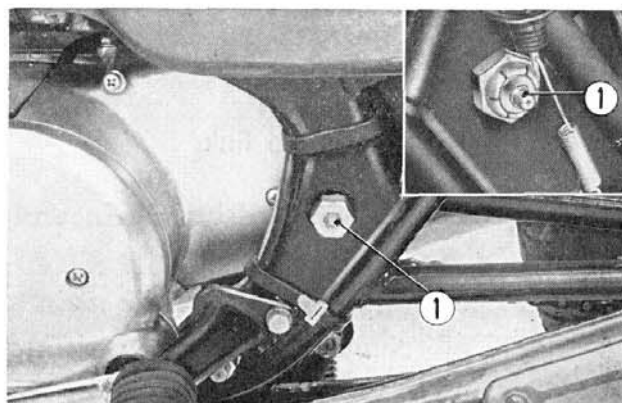

Fig. 19-18 ① Grease nipples
(1) Lubricate grease nipples on the both side of the rear fork pivot shaft (Fig. 19-18) with **multi-purpose grease type NLGI No. 2** every 6 months or every 3000 miles (5000 km), whichever occurs first.
(2) Check the following items and if there is any fault, correct before riding.